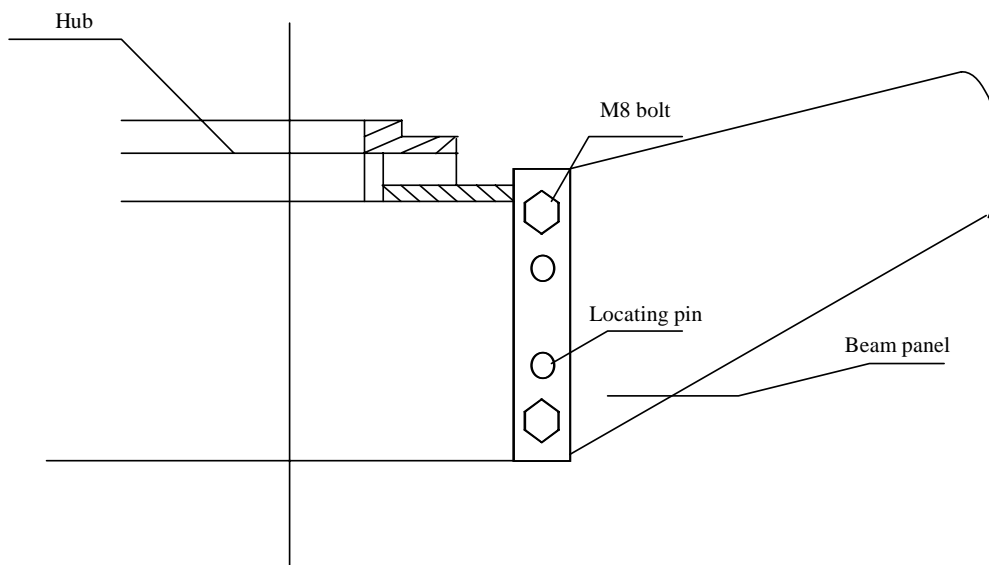

Fig. 6 Beams and hub connection
1. Locate the beams on the hub with locating pins and set M8×30 bolts/nuts. Then fasten the nuts. (Fig. 6)